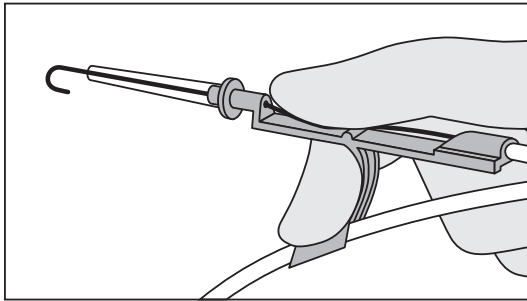

Figure 2
- Using thumb, straighten the “J” by retracting SWG into Arrow Advancer™ (refer to Figures 2 and 3).